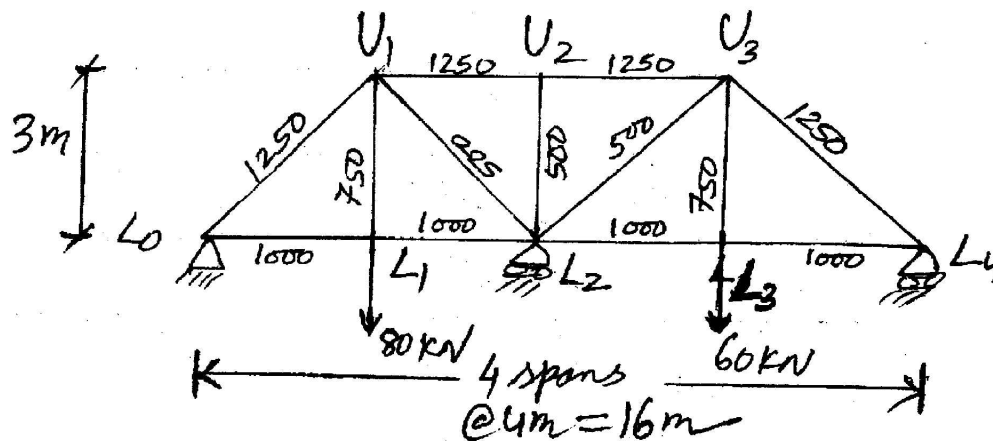

Fig. 1
- 4 Determine the reactions at the supports for a two span continuous truss of **fig. 1**. Figures against the members are the areas of the respective members in mm^2 . Consider E as constant for all members.